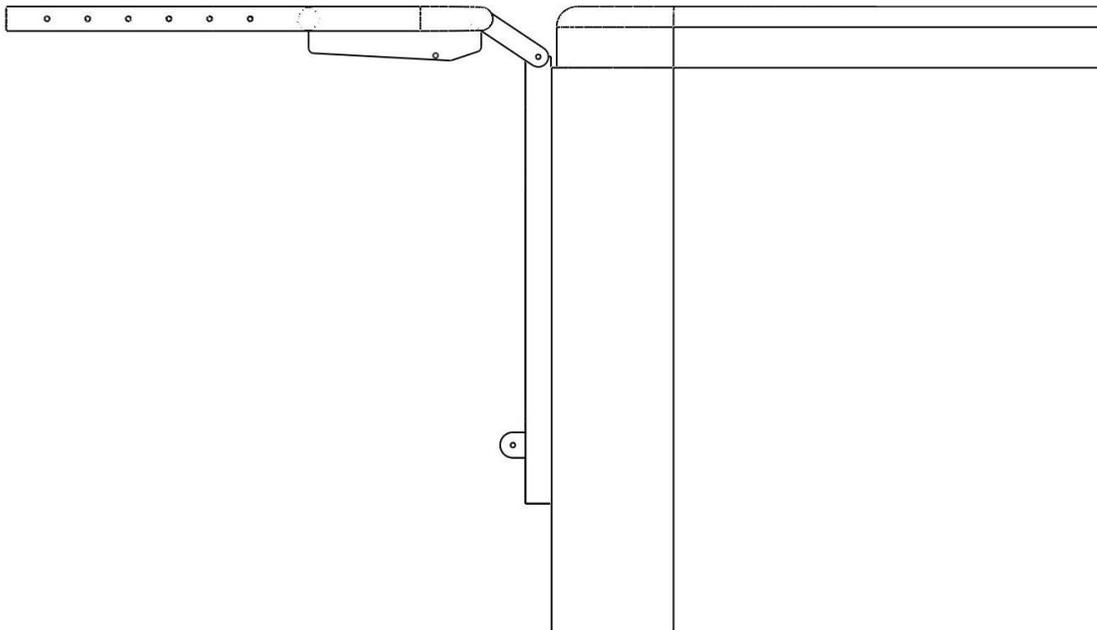

Figure 6
6. Align the Main Unit assembly in the center of the spa. Line up the Pivot Arm as shown in Fig 6. Mark the screw holes..